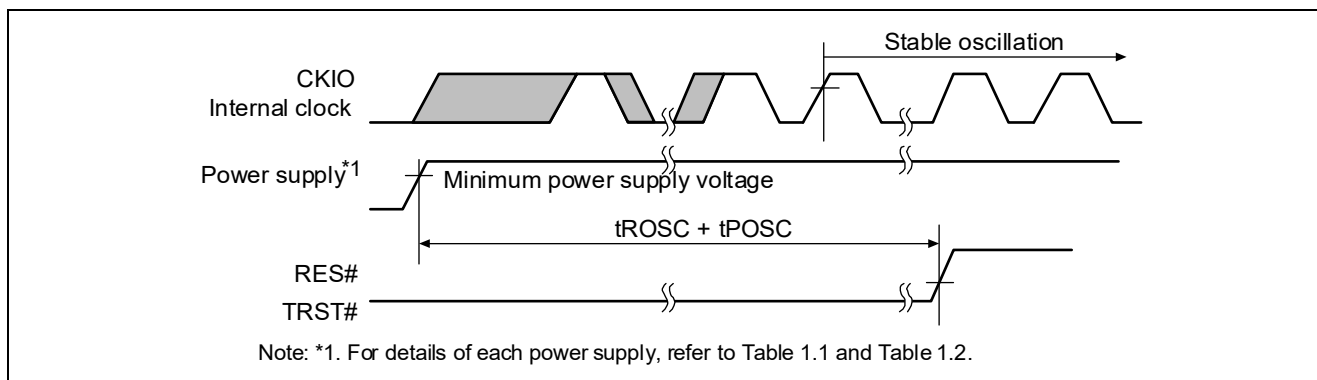

Figure 2.5 Power on oscillation settling time
*3. For details, refer to Table 2.2 and Figure 2.5.
The power on oscillation settling time is stipulated as the time from when the power supply voltage rises above the minimum value until the RES# pin has exceeded the $V_{IL\ Max}$. Table 2.2 shows the timing requirements of power on oscillation settling time and Figure 2.5 shows the power on oscillation settling time.